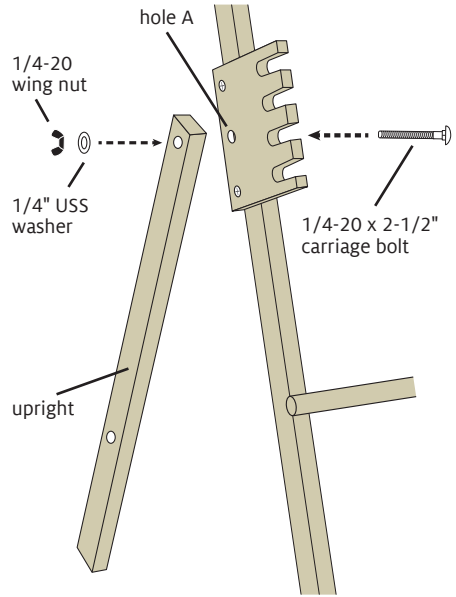

FIGURE 3: ATTACH FRAME UPRIGHTS
1. From inside the loom, insert a 1/4-20 x 2-1/2" carriage bolt through hole A, as shown in Figure 3. Use a hammer or mallet to tap the square head of the carriage bolt into the loom side.